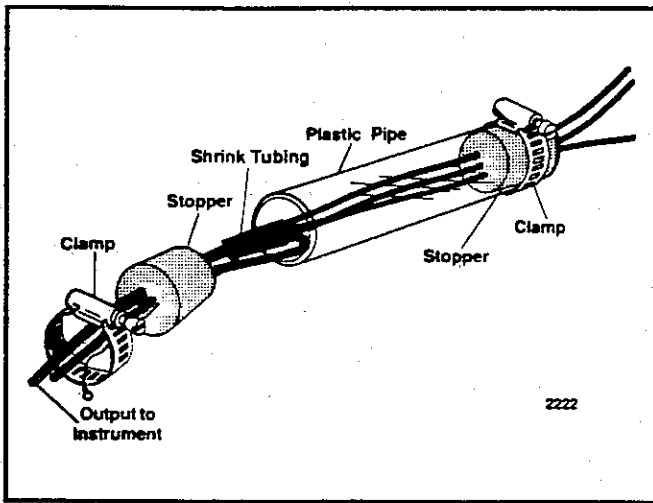

FIGURE 4-3: SPLICE TUBE DETAIL
5. Locate the Splice Tube Assembly and disassemble as follows (Refer to Figure 4-3):